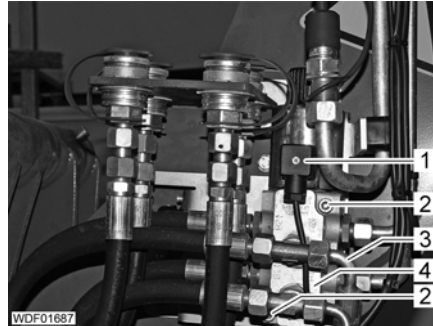

Fig. 316 Solenoid valve
- Unscrew and seal 6 hydraulic lines (Fig. 316,3).
- Unscrew screw at the connector (Fig. 316,1).
- Unscrew 2 screws at the connector (Fig. 316,2).
- Remove solenoid valve (Fig. 316,4).
- Attach solenoid valve (Fig. 316,4).
- Screw in 2 bolts (Fig. 316,2) with washers and nuts and tighten.
- Screw hydraulic lines (Fig. 316,3) to the connections on the solenoid valve and tighten.
- Attach connector (Fig. 316,1) to the contacts on the solenoid valve and secure with screw.